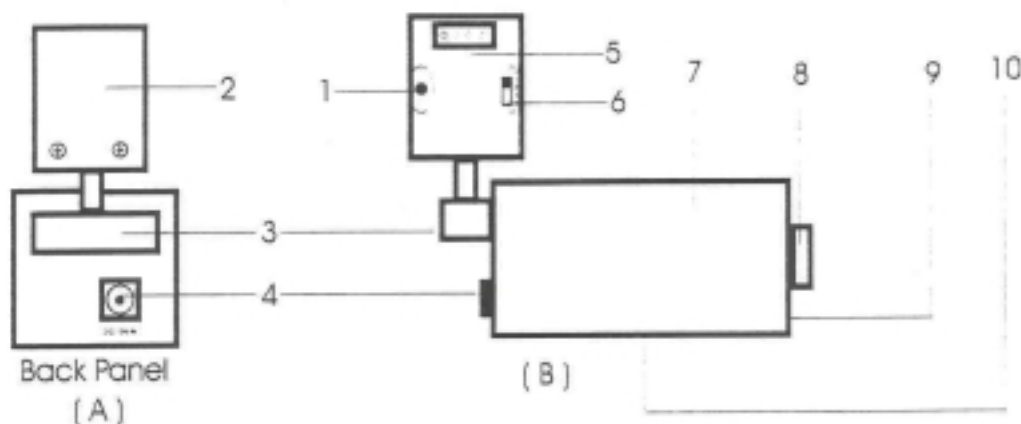
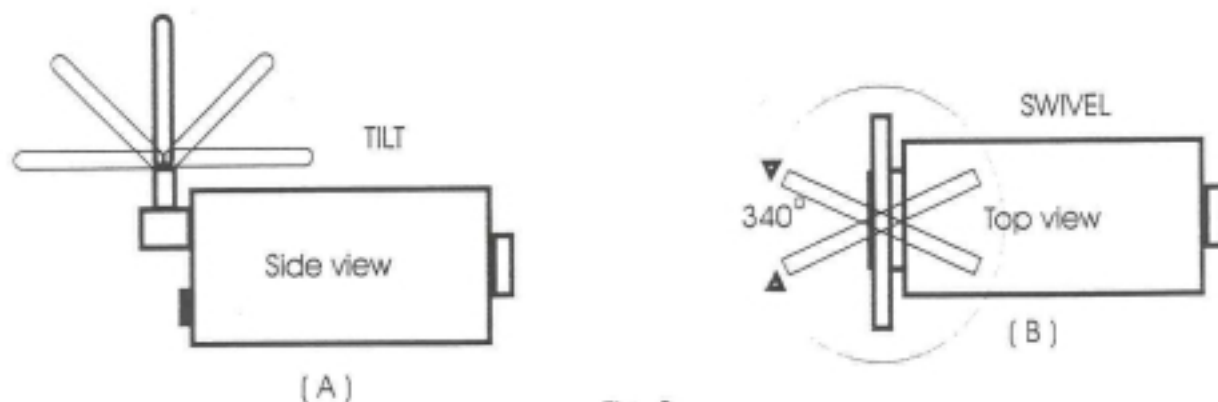

Fig. 1
Fig. 2
- 2) Plug the adapter into the DC INPUT socket on the back panel, please see fig. 1 (A) . A camera lens protective cap, installed when the CCD camera is not in used or while transporting the unit, remove it.
- 3) You should notice a bright Power ON LED indicator, see fig. 1 (B), this means the unit is operating.
- 4) Select channel 1 , channel selector slide switch on the front panel of PATCH antenna. Fig. 1 (B), direct the PATCH antenna to the RECEIVER`S point of area where the choice of location you wish to put. The PATCH antenna SWIVELS 340 degrees and TILT angle 90 degrees, fig. 2 (A) and (B). Alignment and realignment of the PATCH antenna is important to achieve RECEIVER`S audio/video significant output quality. Especially more than one CCD camera are to be installed from different locations, as shown below.